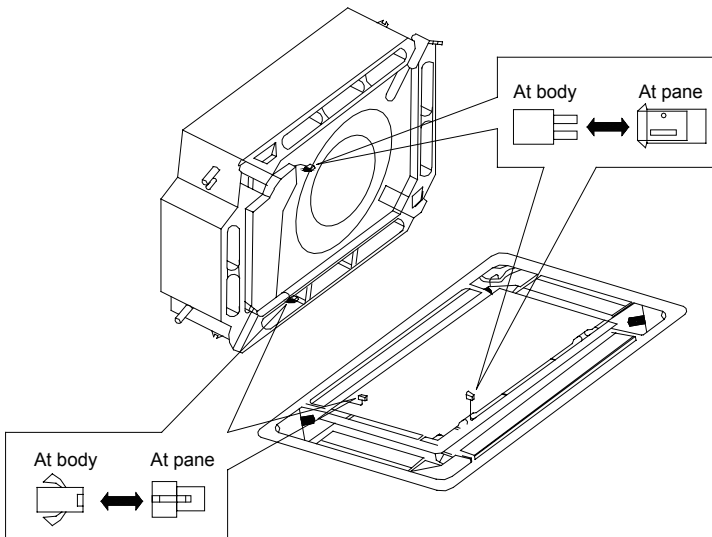

Fig.16
- ③ . Wiring of the decoration panel (Fig.16)